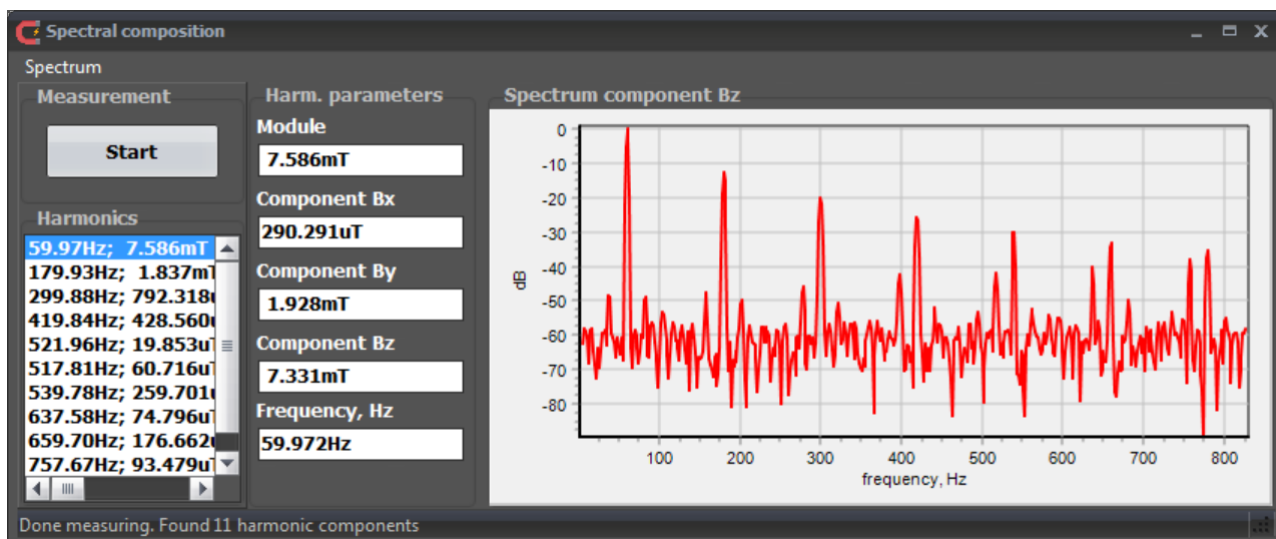

Figure A.10. "Spectral composition" window
- “Spectral composition ...” – opens the window for analysis of the spectral composition of the measured AC field components (see Figure A.10).
5.6 The “Spectral Composition” window is used for investigation of the spectral composition of the measured AC field. It is shown in Figure A.10.